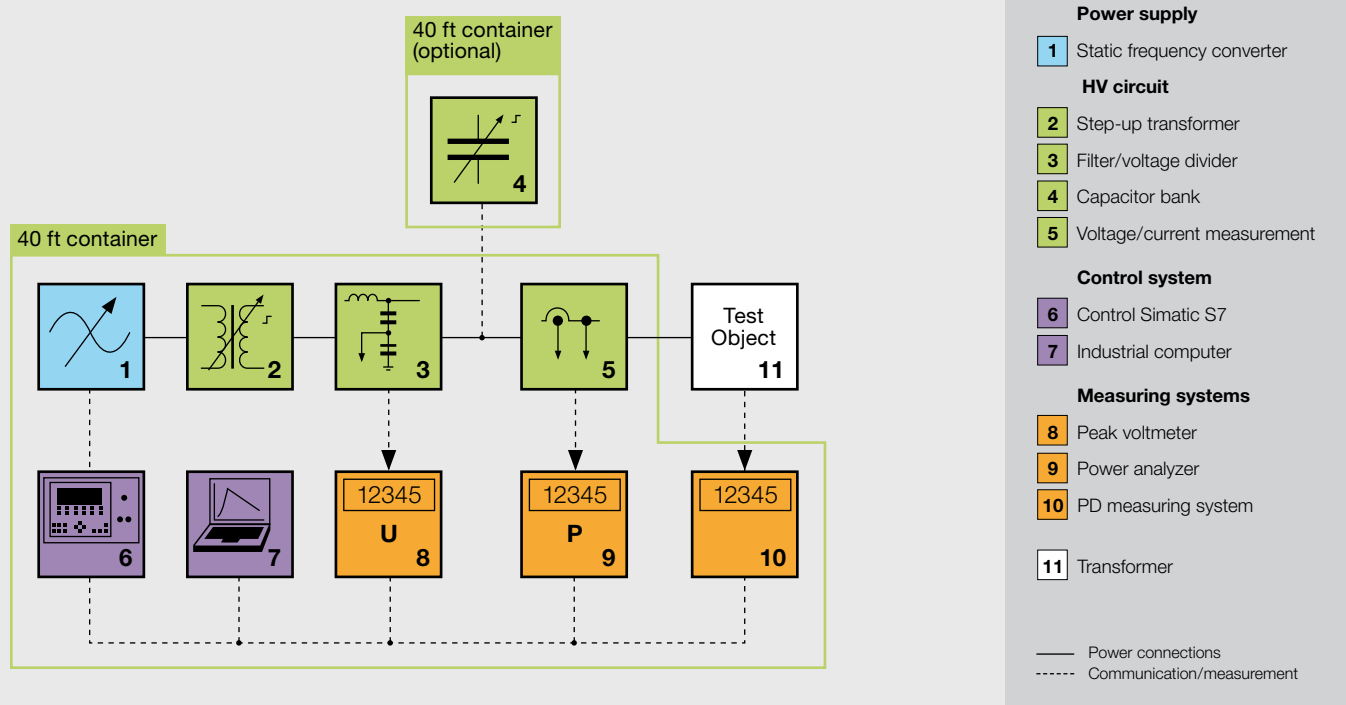

Fig. 2 Block diagram of on-site transformer test system
The central feeding source is the static frequency converter (1) [see fig. 2]. It supplies the active as well as the reactive power with variable amplitude and frequency to the test circuit. The output voltage of the converter is adjusted to the required test voltage level by the step-up transformer with several taps (2). The EMC interferences are suppressed by the filter (3). The associated filter capacitor is built as a divider and gives an input signal to the peak voltmeter (8) for the test voltage measurement and control. An adapted and fine graduated HV capacitor bank (4) enables compensation of the reactive power during the optional measurement of load losses or the temperature-rise test.